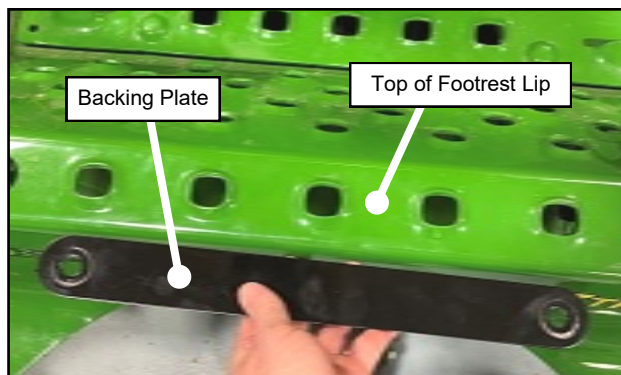

Fig. 1.15a (Install Ballast Box, Backing Plate)
1.15 Remove ballast box from shipping pallet. Next, install ballast box on the front edge, of the vehicle. Install top bolts first into the vehicle's floorboard (do not fully tighten). Place backing plate between the underside of the floorboard and locking nuts. Next, install front lower carriage bolts from inside the vehicle floorboard outwards to the front of the vehicle. To tighten down the lock nuts, you will need a 3/4" ratchet wrench to access the nuts found on the inside of the ballast box. Fully tighten the front bolts and then the top bolts. See Figures 1.15a and 1.15b.